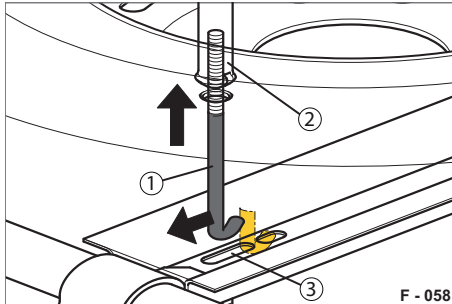

Fig. 85 Unscrewing the hook bolt
- ▶ Lower the hook bolt (Fig. 85/1).
- ▶ Lead the hook bolt to the rear end of the slot (Fig. 85/3).
- ▶ Lead the hook bolt to the front end of the slot (Fig. 85/3).